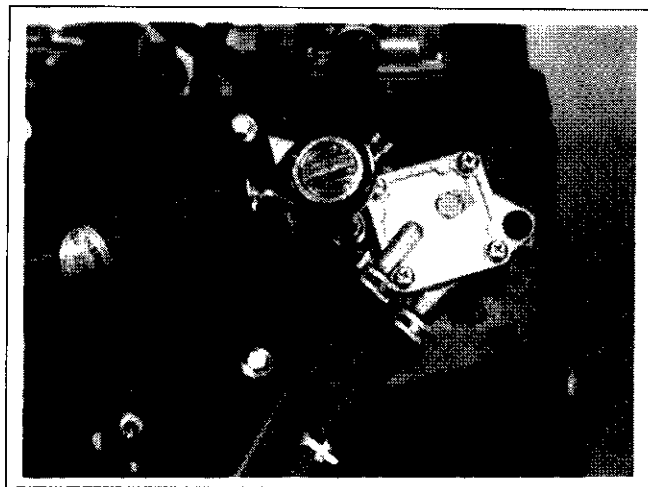

Figure 11-65. Reinstall Fuel Pump.
1. Install pump and lines as an assembly. Connect the pulse line to the crankcase vacuum fitting or valve cover, whichever source is used. See Figure 11-65.